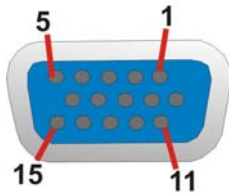

Figure 3-23: VGA Connector
- CN Pinouts:** See **Figure 3-23** and **Table 3-25**